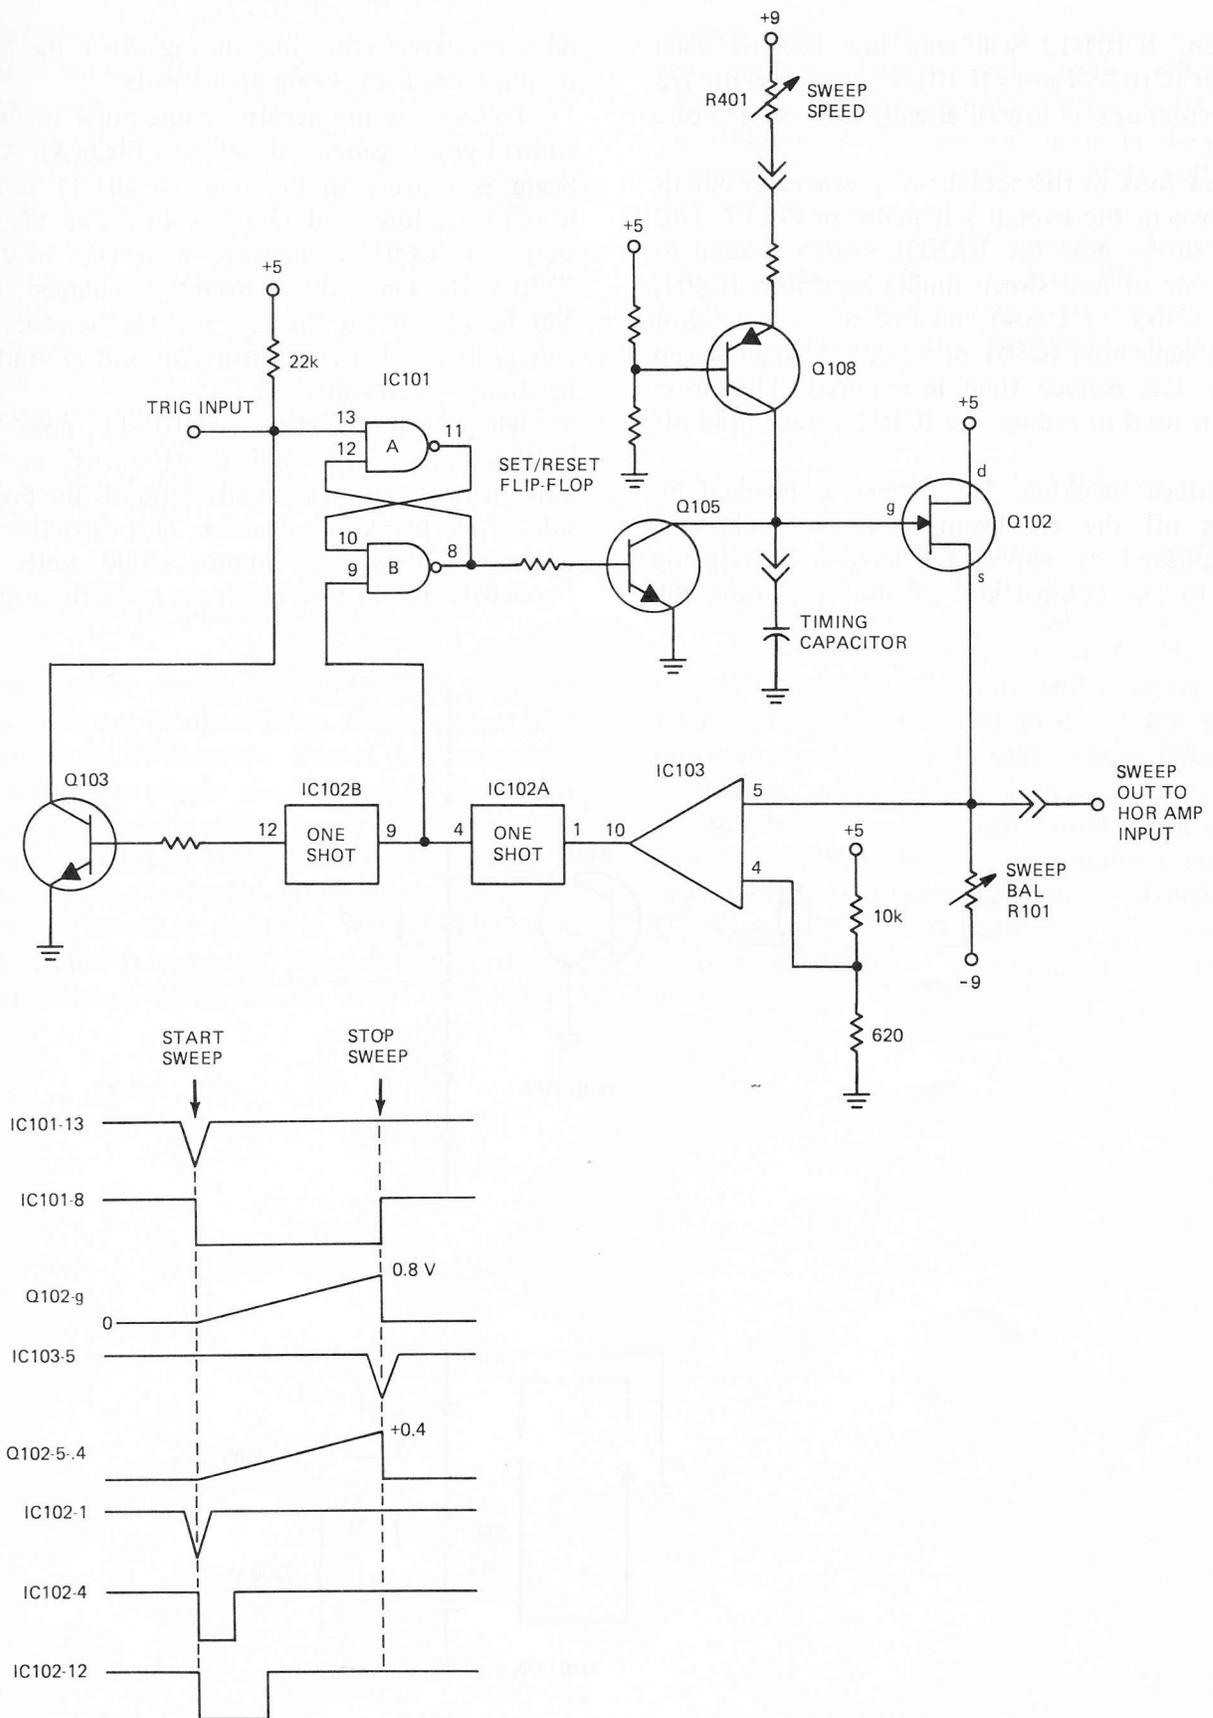

Figure 5. Simplified schematic of the sweep generator.
**The Sawtooth Generator.** Figure 5 shows a simplified schematic of the sweep generator. Gates IC101A and IC101B form a flip-flop circuit. Initially, the voltage states at IC101-13, IC101-9, and IC101-8 are all high. The high state at IC101-8 turns on Q105, shorts out the timing capacitor, and holds the Q102 gate at almost 0 volts. The sweep balance trimmer, R101, is adjusted to make the Q102 source voltage about -0.4 volt when the gate is at 0 volts. The Q102 source voltage is connected to the horizontal amplifier input. A voltage of about -0.4 volt at the horizontal input positions the electron beam at the left edge of the screen.